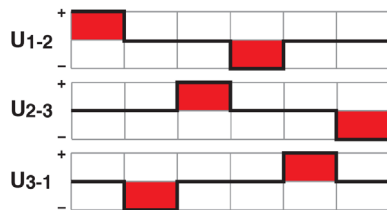

Figure 6-34 Block commutation of EC (BLDC) motors – Definition of phases
- either ensure that the alignment follows the specified pattern (→ Figure 6-34)